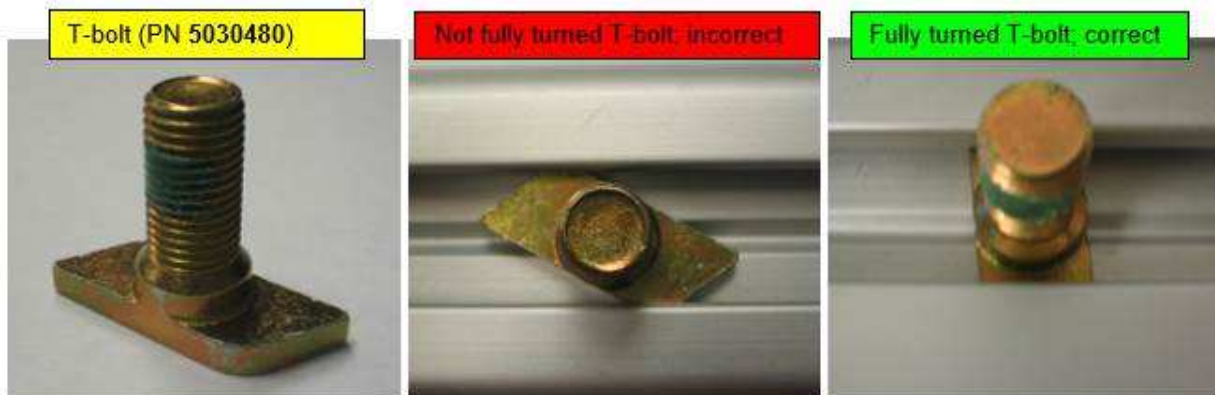

Figure 8: T-bolt engagement
10. Ensure the T-bolts are fully engaged in the upper and lower seat tracks. Refer to Figure 8.